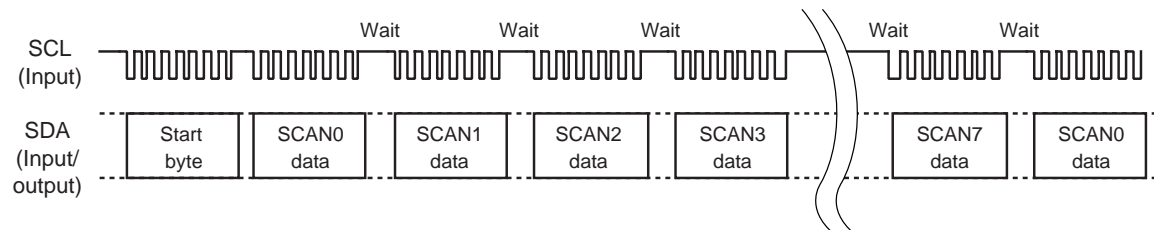

Figure 28 Scan Data Serial Transfer Timing
The key-scanned data can be read by an MPU via a serial interface as shown in Figure 28. First, a start byte should be transferred. After the HD66727 has received the start byte, the MPU reads scan data SD0 to SD3 from the SCAN0 register starting from the MSB. Similarly, the MPU reads data from SCAN1, SCAN2, SCAN3, SCAN4, SCAN5, SCAN6, and SCAN7 in that order. After reading SCAN7, the MPU starts at SCAN0 again. While reading the scanned data, the MPU also reads the scan flags (SF1 and SF0) and the transfer flag (TF). The scan flags reflect the value of the scan cycle counter, which automatically increments its value by one for each scan cycle from 00 to 11 (after 11, it is reset to 00). If the scan data is read more than once to be confirmed, and the corresponding scan counter values are the same, the scan data might have been erroneously latched into the scan register at the same timing; it should be reconfirmed as required. Also, if the transfer flag is read as 1, the HD66727 has been read out while it is latching scan data and is thus unstable; it should also be reconfirmed as required.